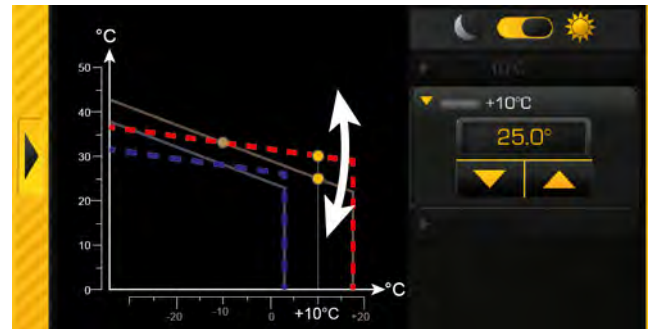

Fig. 5-69: Adjust heating curve (at outdoor temperatures above freezing)
- If during heating mode the rooms are constantly too cold (within the set heating times), the heating curve must be adjusted. See chapter Fig. 5-69: "Adjust heating curve \(at outdoor temperatures above freezing\)".